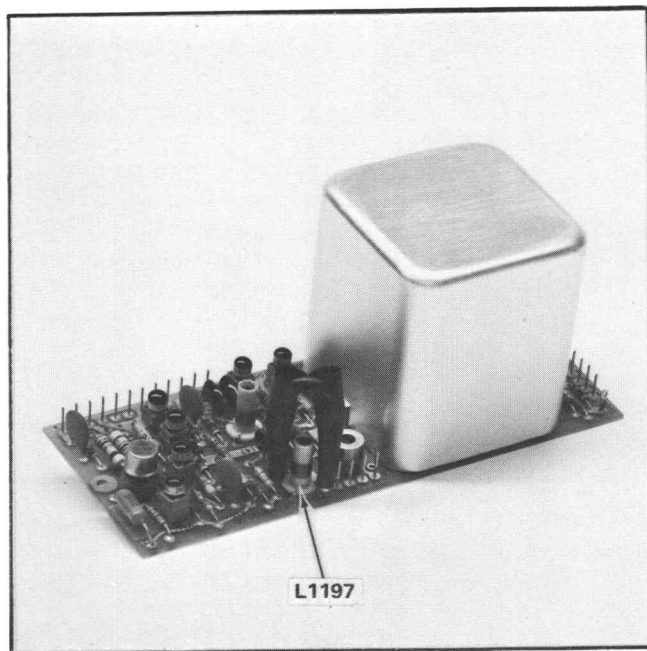

Fig. 5-44. L1197 on the Subcarrier Output board shorted.
y. Using a shorting strap, short L1197 (located on the Subcarrier Output board; see Fig. 5-44).